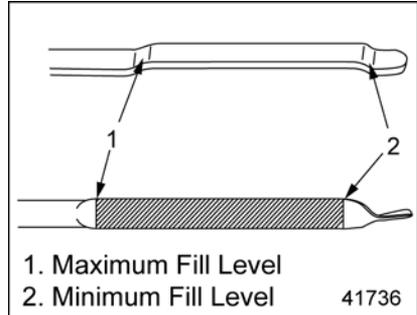
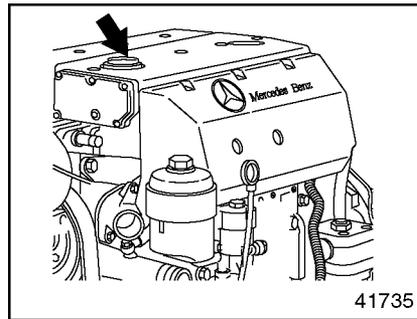

Figure 22 Oil Dipstick
Figure 23 Oil Fill Collar
2. If necessary, top off by filling engine oil through the oil fill collar (see Figure 23) until the maximum fill level on the oil dipstick (see Figure 22) has been reached. For detailed procedures, refer to the "Maintenance" section. Do not overfill.
1. Check the oil level using the oil dipstick (see Figure 22).